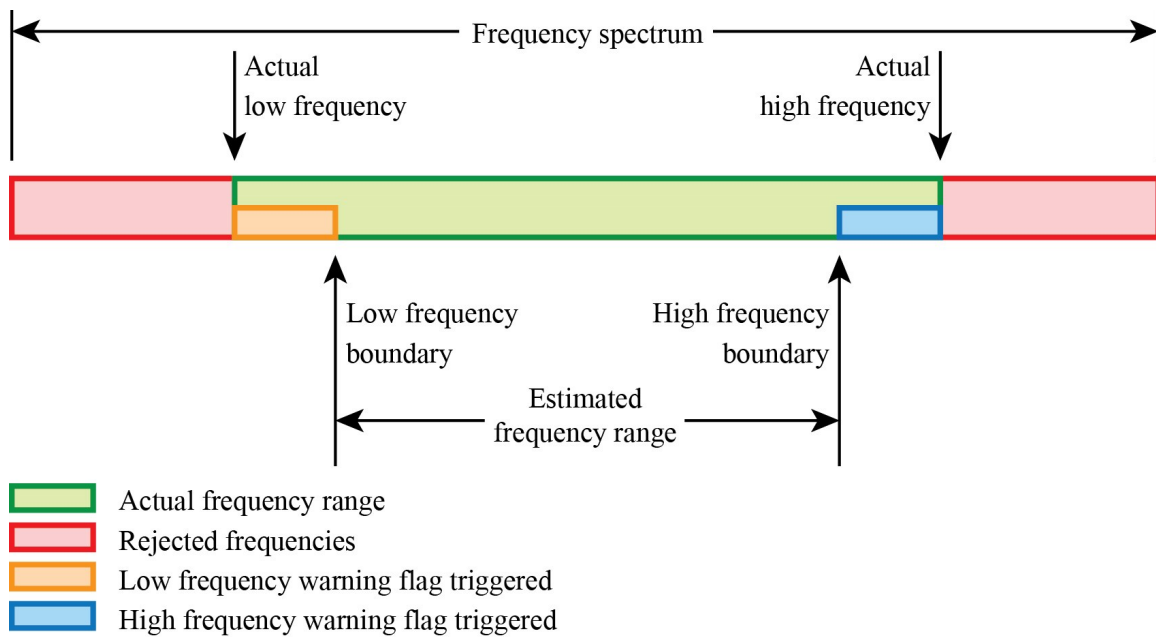

FIGURE 9-4. Relationship of estimated- and actual-frequency ranges and frequency warning flags
FIGURE 9-4 (p. 40) shows how boundaries and ranges relate to each other:
- When a resonant frequency falls between the estimated- and actual-frequency ranges. This may indicate a change in the output of a sensor before the output moves outside the actual-frequency range. See FIGURE 9-4 (p. 40).